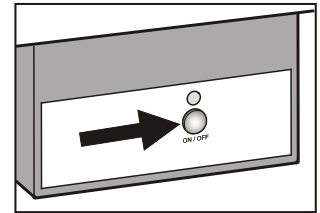

Figure 23
- Press the **On/Off** button so the Ice Maker LED comes on (**Figure 23**).